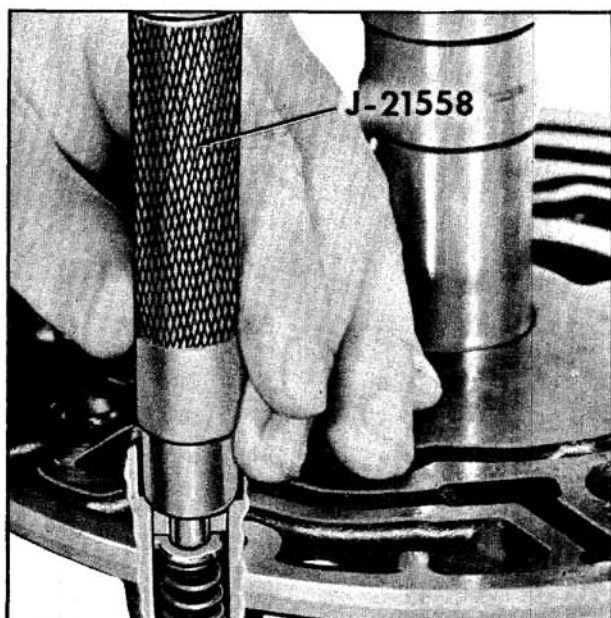

Fig. 6-426 Installing Cooler Bypass Valve
8. Install spring, valve and seat into cooler bypass valve. Using Tool J-21558 press seat into bore of pump body until tool bottoms on face of pump. (Fig. 6-426)